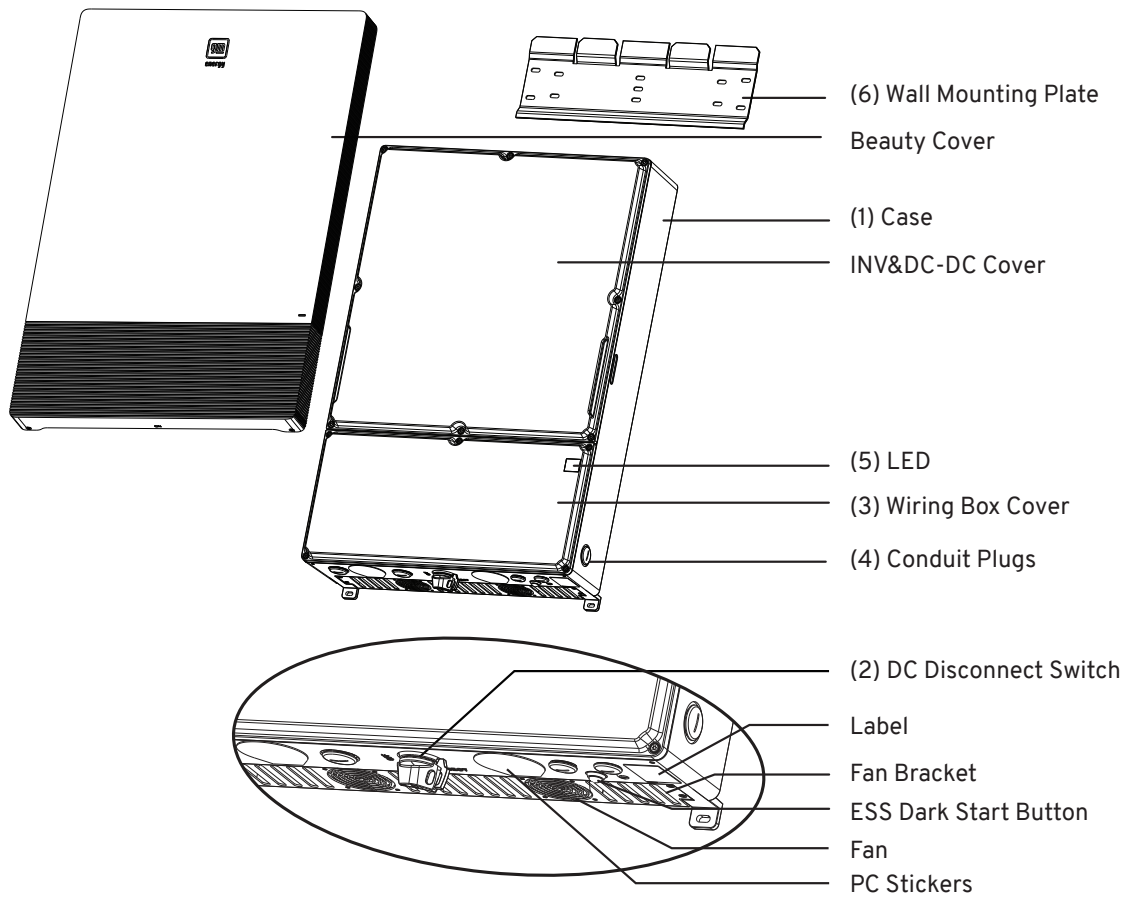

Figure 2: Exterior view of GM Energy Inverter main components
- The upper powerhead section (see figure 2) contains no user-serviceable parts. For all service and maintenance, the GM Energy Inverter should be returned to an Authorized Service Center.
- La partie supérieure du balai (voir figure 2) ne contient aucune pièce répa-